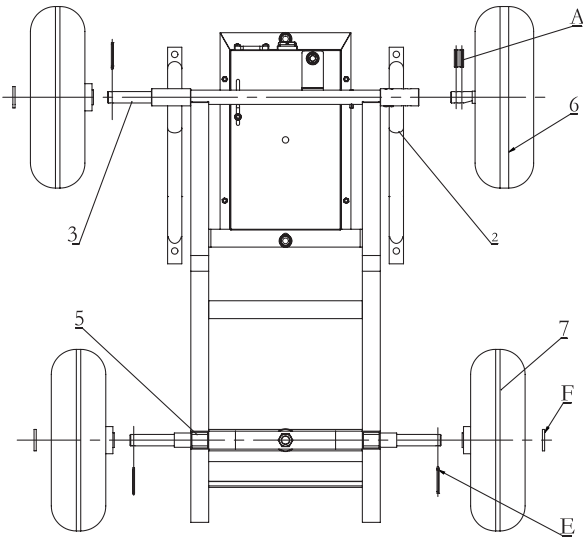

Fig.3
1. Assemble the driving wheel (6) to the left wheel bracket (2), and tighten it with 2pcs 5x26 elastic cylindrical pin (A).
2. Assemble one wheel (7) onto the wheel axle (3), and assemble the left two wheels (7) onto the rotating bracket (5), and fix them each with a washer 16(F) and a 2.8 x 30 cotter pin(E). See Figure 3.